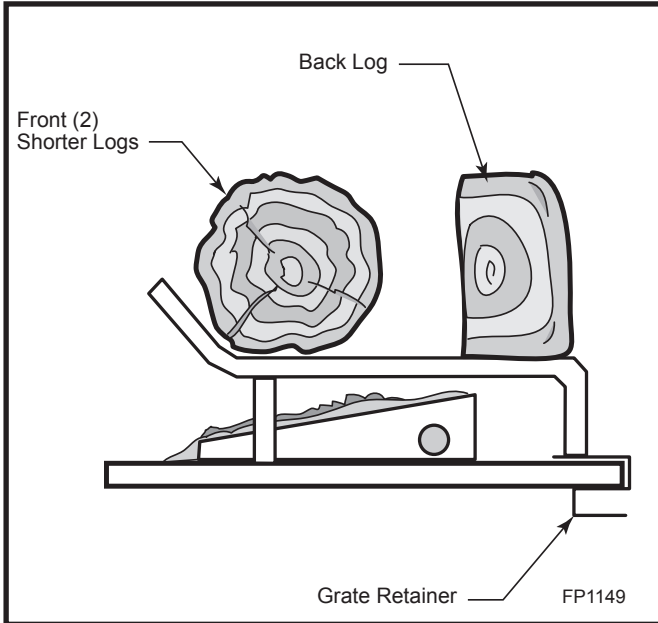

Fig. 12 OD24SHK log placement.
1. Place the larger bottom logs (longer log in back, shorter (2) logs in front) onto the grate, leaving as much space between them as possible. (Fig. 12)